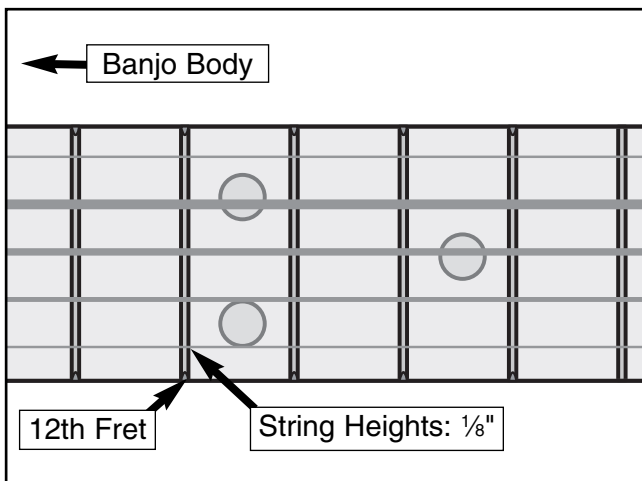

Figure 18. Correct 12th fret string heights.
1. Measure the string heights at the 12th fret from the peghead (**Figure 18**). The string should be $\frac{1}{8}$ " above the fret. Note—Use a steel ruler with a resolution of $\frac{1}{64}$ ".